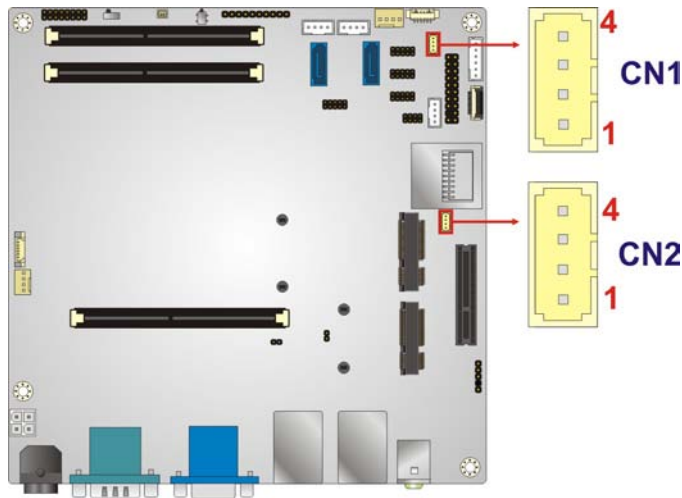

Figure 3-21: SMBus Connector Location
- CN Location: See **Figure 3-21**